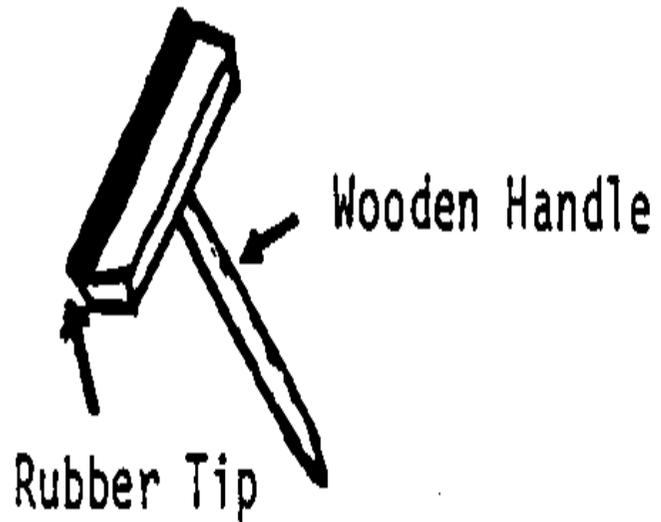

Figure 16. Squeegee
* Clean the glass every few days with distilled water and squeegee (see Figure 16)